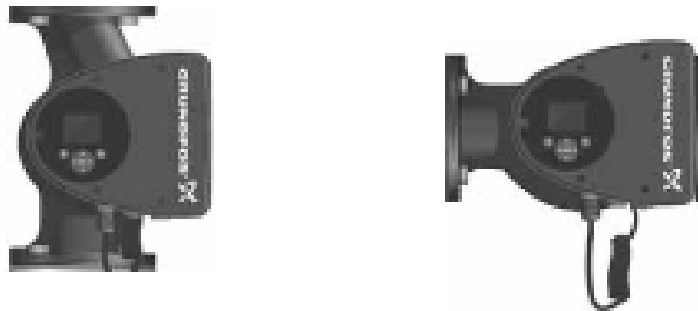

Figure 4: Grundfos Recommended Installation Positions
6. The pump can be installed vertically or horizontally to fit existing pipe structure. It can also be suspended directly in the pipes, provided the pipework can support the pump weight. Refer to figures 4 and 5.
8. To prevent cavitation, provide a minimum of five (5) diameter straight run of pipe on the suction and discharge sides of the pump.